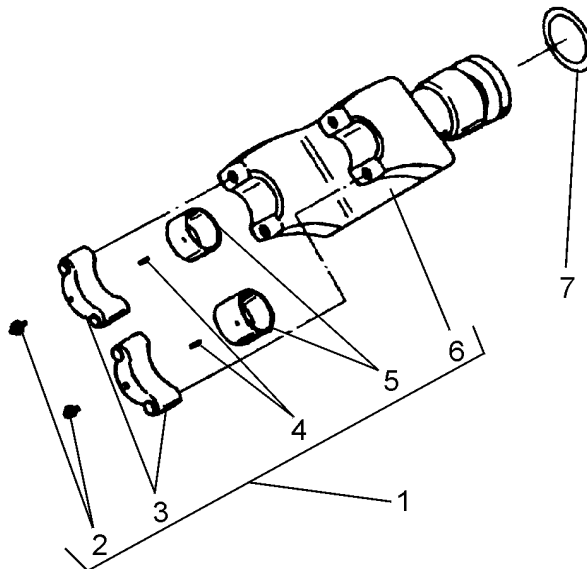

Fig. 17.10. Lift Cylinder Yoke
15. LIFT CYLINDER YOKE REPLACEMENT (Refer to Fig. 17.10)